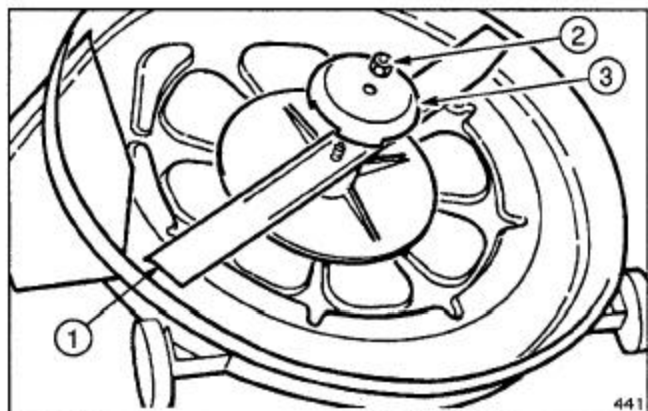
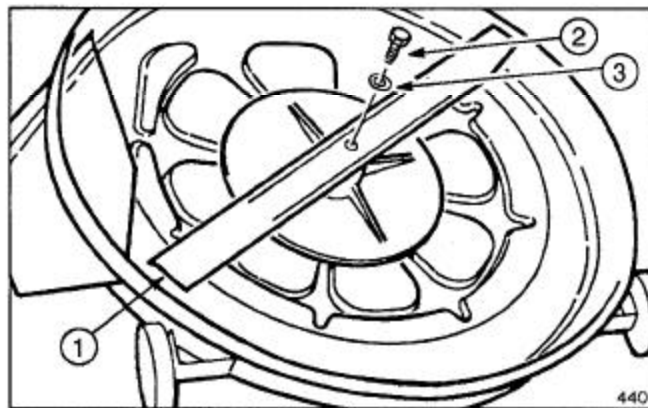

Figure 7
Figure 8
1. Depending on your unit, install in sequence the new blade, anti-scalp cup (if one was on unit), and lock nut (Fig. 7) or the new blade, washer and blade bolt (Fig. 8). Tighten blade bolt or lock nut to 50 ft-lbs.